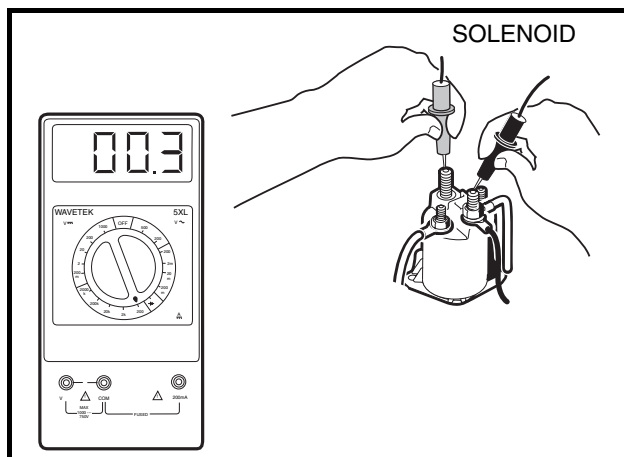

Figure 11-16 Solenoid Continuity Test
5. Set the multimeter to 200 ohms. Connect the red (+) probe to one of the large posts of the solenoid and connect the black (–) probe to the other large post (**Figure 11-16, Page 11-19**).